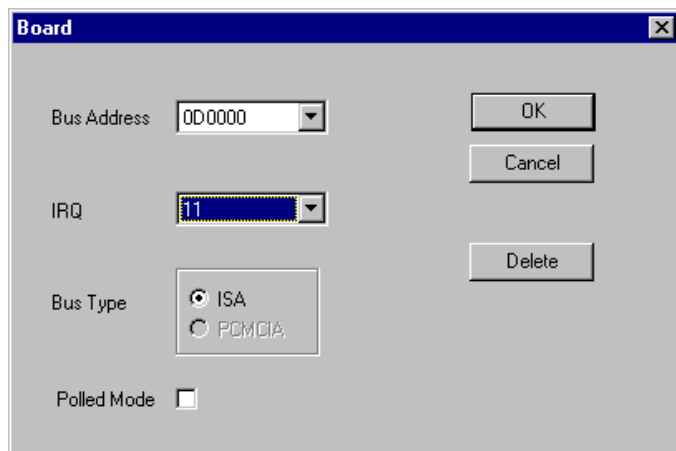

Figure 4-1. Assigning Board Information
4. Click on the **Add a Board** button to configure hardware information for a single fieldbus interface connected to your machine. The hardware information you must fill in includes the physical address of your board, the board IRQ and the system bus type, as shown in Figure 4-1. ISA support and PCMCIA support are provided.